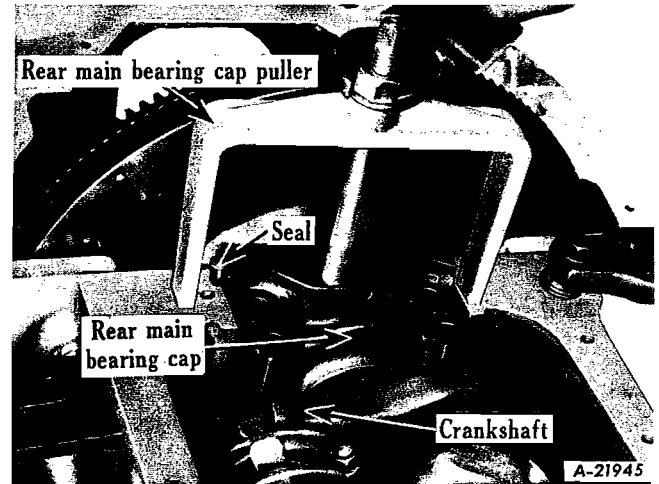

Fig. 29 - Use SE-1719 Bearing cap puller to remove rear main bearing cap.
- The crankshaft bearing caps are numbered to identify their position and they must be reinstalled in their respective positions. Remove self-locking capscrews from each bearing cap. Remove all crankshaft main bearing caps. NOTE: To remove the rear, or No. 4, main bearing cap, a puller is required (Fig. 29). After all caps have been removed, lift crankshaft straight up and out of cylinder block, and place in a vise equipped with soft jaws.